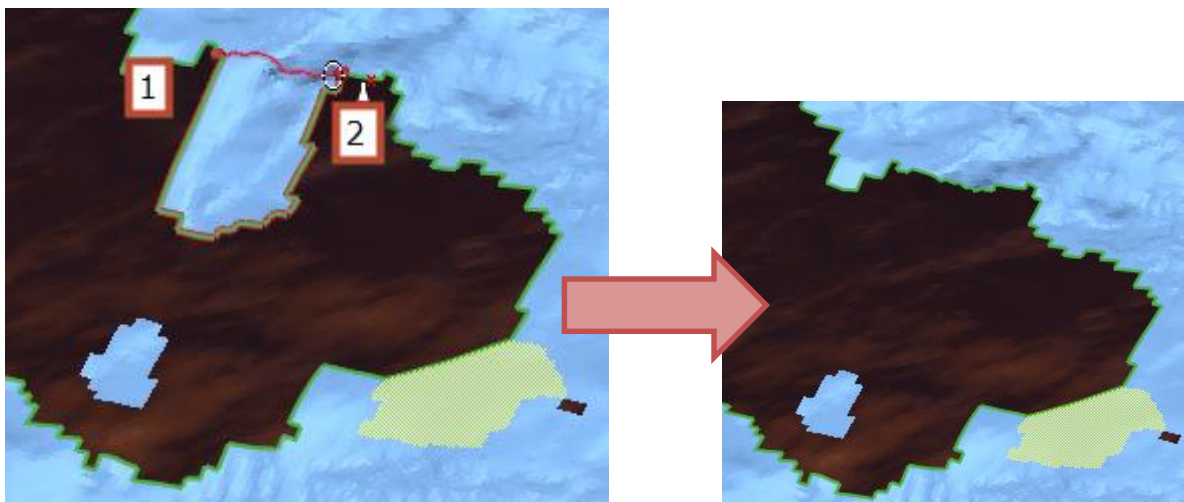

Figure 63 – Remove Peninsula
- Left click one time on the top, left corner of the area shown in **Figure 63**.